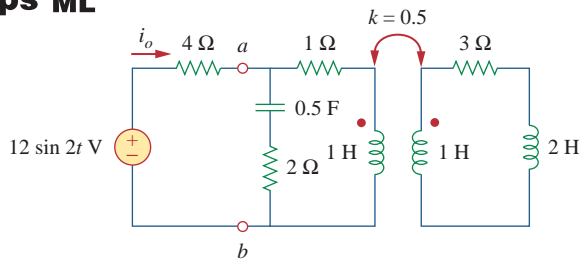

Figure 13.94
13.25 For the network in Fig. 13.94, find \mathbf{Z}_{ab} and \mathbf{I}_o .